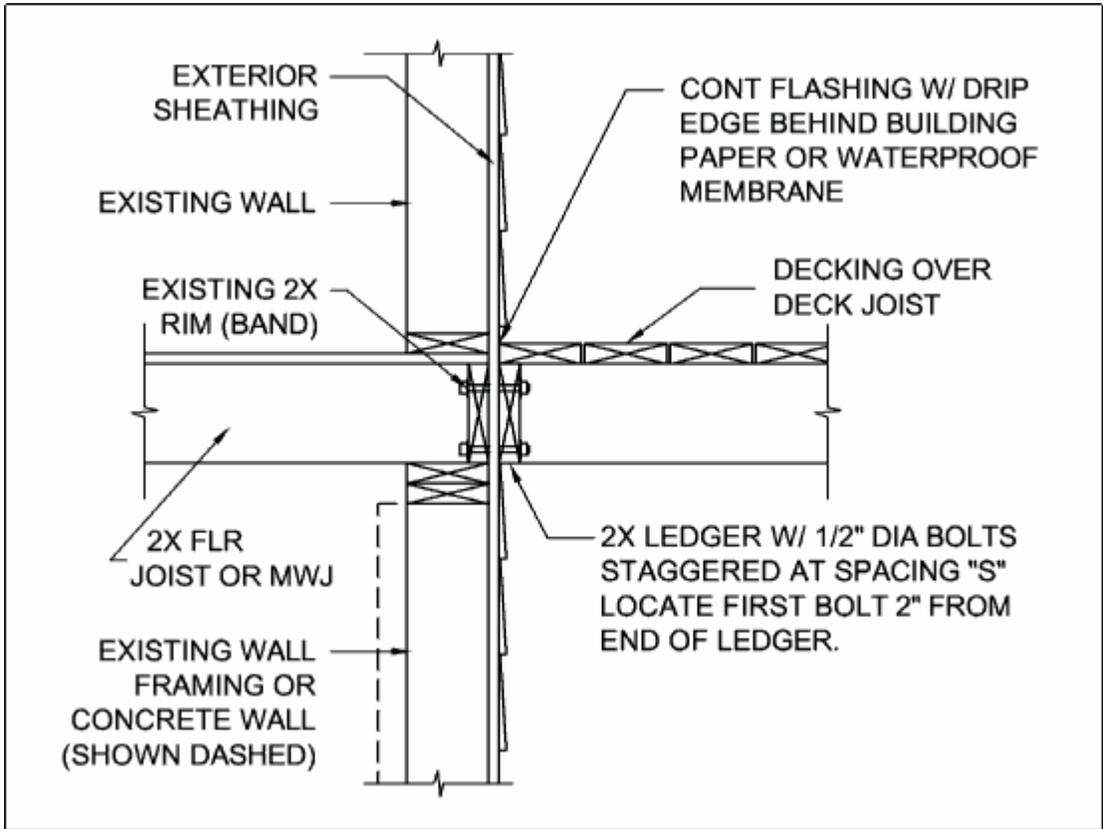
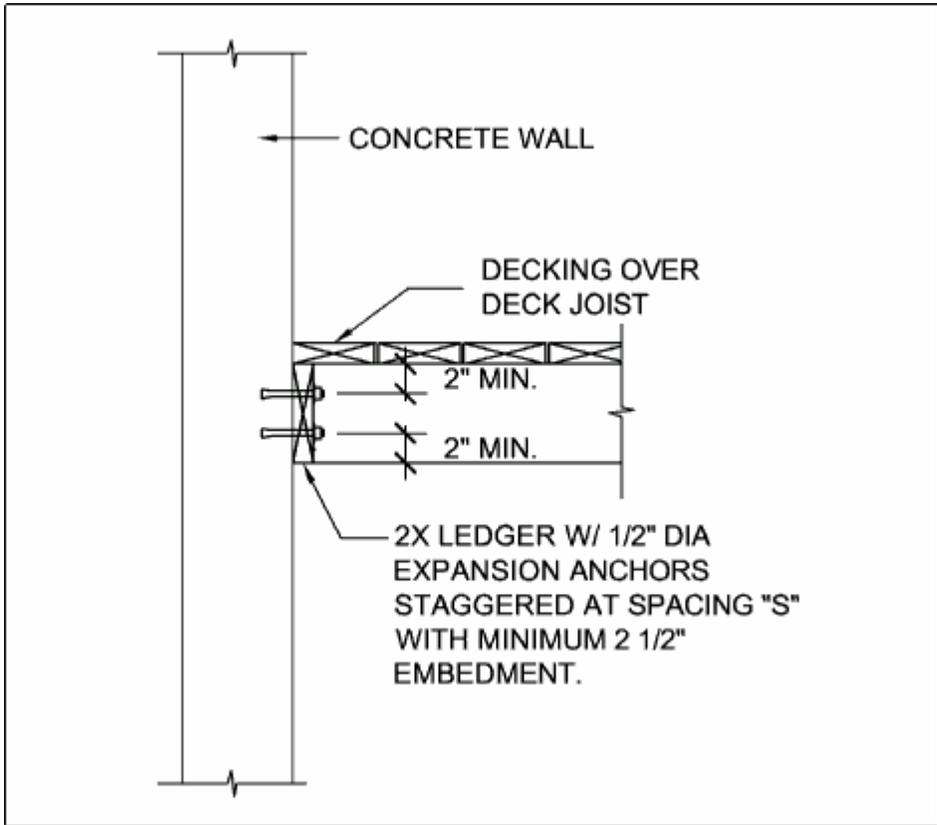

Figure 6 – Attachment of Ledger Board to Band Board with Bolts.
Figure 7 – Attachment of Ledger Board to Concrete Wall.
- 7. Determine if you will be connecting to a band board (rim joist), see Figure 5; a concrete wall, see Figure 6; or a sill plate, see Figure 7. Note: This document cannot be used with masonry walls.
Expansion (Wedge) Anchors: Use expansion anchors when attaching a ledger board to a concrete wall as shown in Figure 7. Bolt diameters of the anchors shall be a minimum of ½"; in some cases, this may require an anchor size of ⅝". Minimum embedment length shall be 2½". Expansion anchors must have washers.